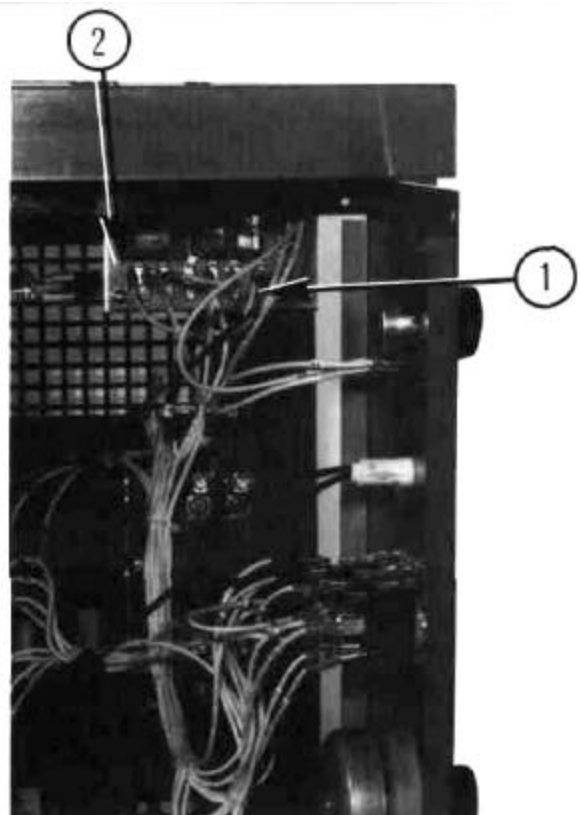

Figure 4-4
5. Disconnect thermocouple lead wires (Fig. 4-4 No. 1) from circuit board.
8. Remove circuit board (Fig. 4-4 No. 2) from bracket.